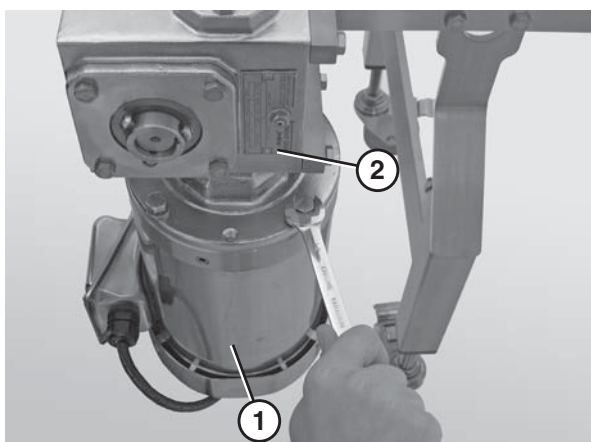

Figure 19
4. Attach the motor (Figure 19, item 1) to the gear reducer (Figure 19, item 1).